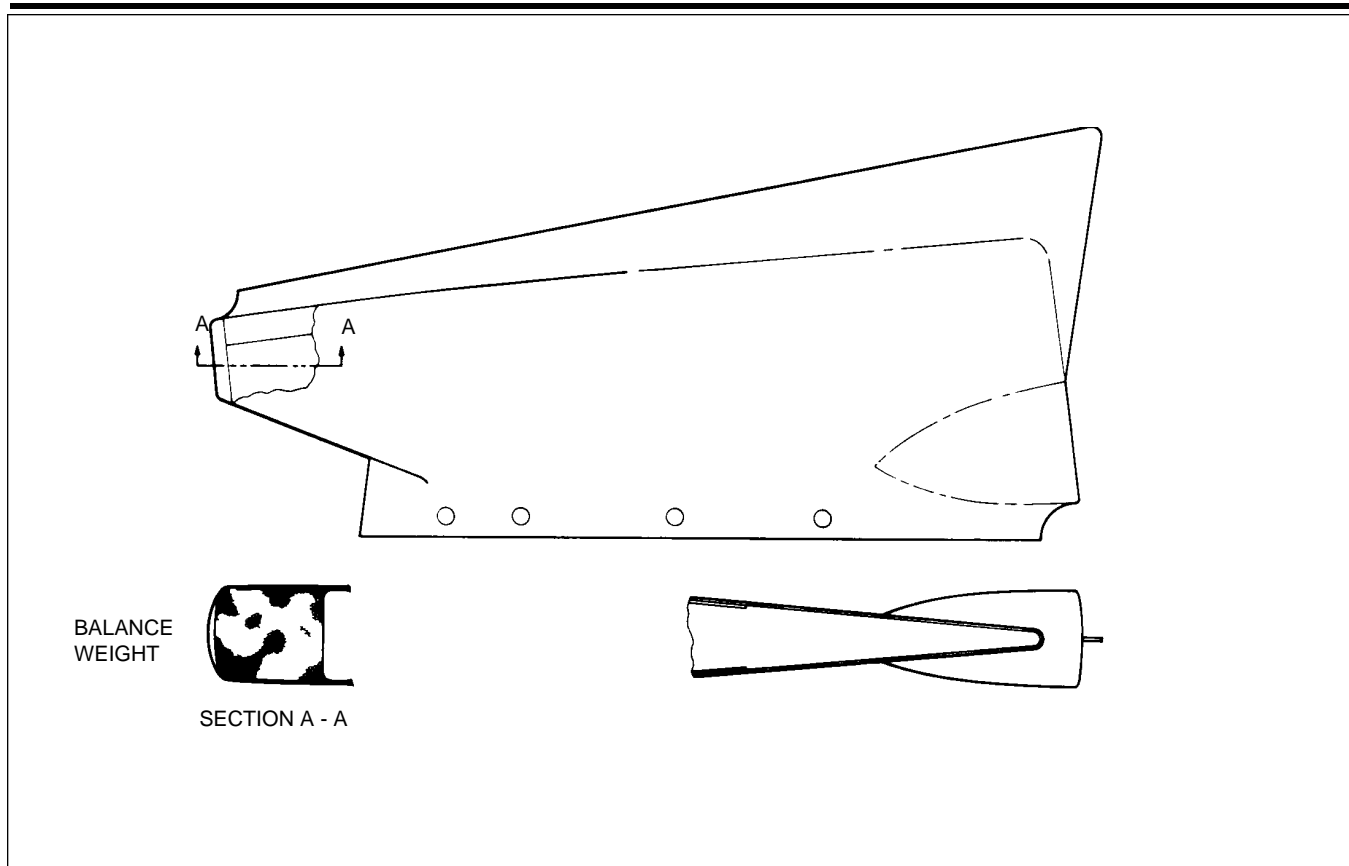

Figure 4-14 Rudder Balance Weight
- b. **Nose Light:** This condition is caused by a light balance weight or a heavy rudder as a result of paint or repairs. A light balance weight is highly improbable because it is enclosed in fiberglass per Figure 4-14, Section A-A. Paint build-up must be stripped and surface repainted. If the rudder is too heavy as a result of repairs, the repairs must be removed and damaged parts replaced.